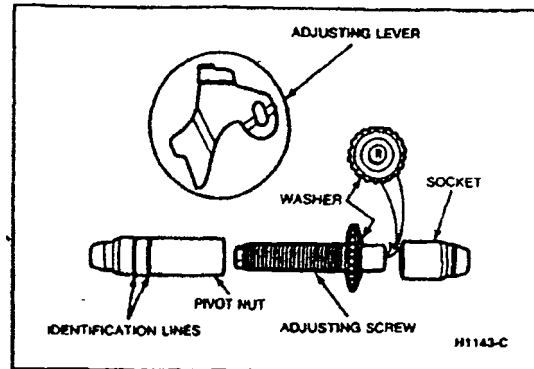

FIG. 7 Adjusting Screw and Lever Identification
Interchanging the brake shoe adjusting screw assemblies from one side of the vehicle to the other would cause the brake shoes to retract rather than expand each time the automatic adjusting mechanism operated. To prevent installation on the wrong side of the vehicle, the socket end of the adjusting screw is stamped with an R or L (Fig. 7).
12. Hook the cable hook into the hole in the adjusting lever. The adjusting levers are stamped with an R or L to indicate their installation on RH or LH brake assembly (Fig. 7).